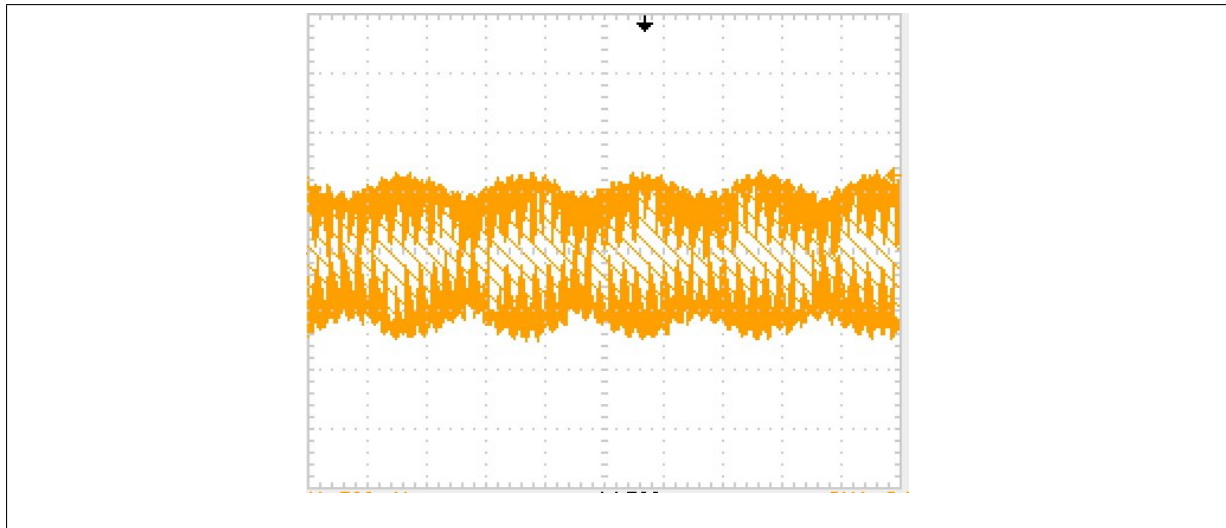

Figure 8: Oscilloscope photo of an AM modulated signal.
5. Observe the signal between JP30 and GND. You should see an amplitude modulated (AM) 27.000 MHz signal as shown in Fig 8. Set your oscilloscope time scale to 500 μ s/div. Set the ACQUIRE mode to Peak-detect. This setting allows the oscilloscope to capture the peak of the RF signal even though the sampling rate of the oscilloscope is not enough to capture the RF signal itself. Increase the signal amplitude until AM signal gets distorted. At this point, determine the modulation index, m , of the AM signal using the following equation